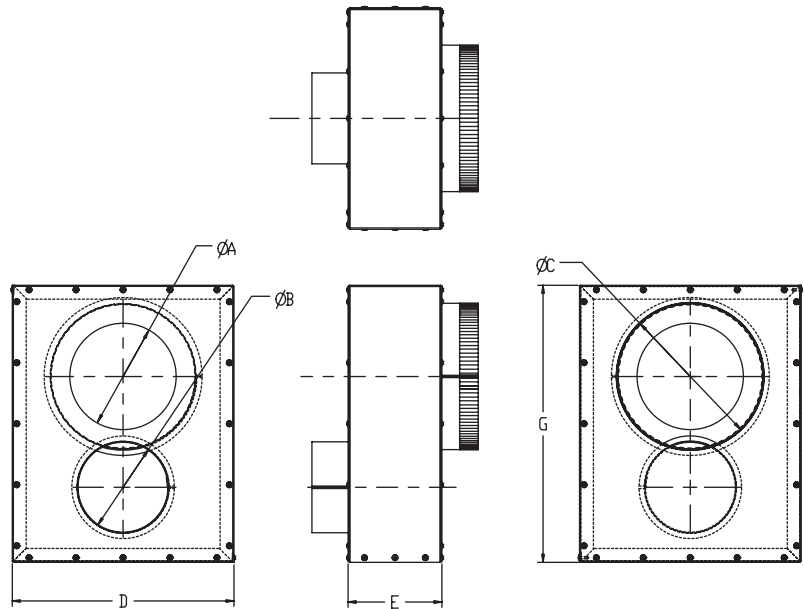

Figure 10 – Combustion Air Inlet Box
2. The combustion air inlet box, inlet air screen, deflector disk, and vent terminal provided with the unit heater must be installed at the termination point of the combustion air/vent system. See Figures 10, 11, 12 and 13 and Table 7.
- The Combustion Air Inlet Kit (which includes a combustion air inlet box, air inlet screen, deflector disk, vent terminal and inlet air collar) available for the heater by the manufacturer MUST be installed at the termination point of the combustion air/vent system.** See Figures 10, 11, 12 and 13 and Table 7.
Insert a 5 foot length of UL 1738 listed vent pipe through the combustion air inlet box opening (detail A, Figure 10) with the "UP" arrow pointing up. Position the pipe to extend 12 inches (305mm) beyond the inlet air screen. Seal the space between the vent pipe and opening of the combustion air inlet box using high temperature silicone sealant. Install deflector disk on UL 1738 listed vent pipe 2-1/2 inches above inlet air screen and fasten with screws. Seal joint between deflector disk and pipe with silicone sealant. Install vent terminal on top of UL 1738 listed vent pipe, fasten with screws and seal joint.
Insert pipe through wall and fasten adapter box in place so that the pipe pitches downward 1/4 inch per foot (21mm/m) toward the outside. Flash and/or caulk pipe on outside wall. Install inlet air screen assembly and fasten to pipe with screws. Insert a continuous length of 4 inch (sizes 030-075) or 5 inch (sizes 090-120) UL 1738 listed vent pipe through the combustion air inlet box opening (detail A, Figure 10). Position the pipe to extend a minimum of 12 inches (305mm) beyond the inlet air screen.